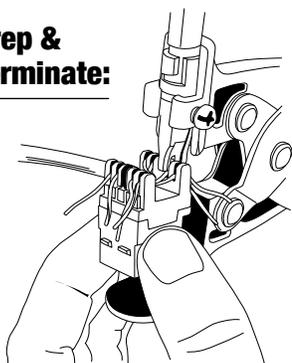

Fig 1
- 3) Position the prepared jack into the blade (Fig 1) lining up the IDC with the blade. Squeeze the tool until the jack and the base come together.